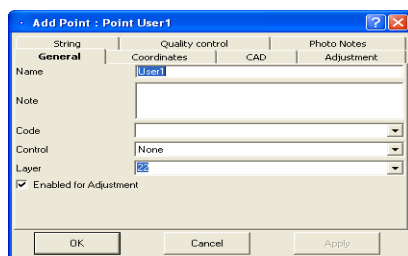

Figure 5-16. Add Point Dialog Box
2. On the *Add Point* dialog box (Figure 5-16 on page 5-16) the user can correct the point name (by default “User n” where n-number), the coordinates in the coordinate system set for the current job, enter a code, string, control codes, note and set a control. Click **OK**.